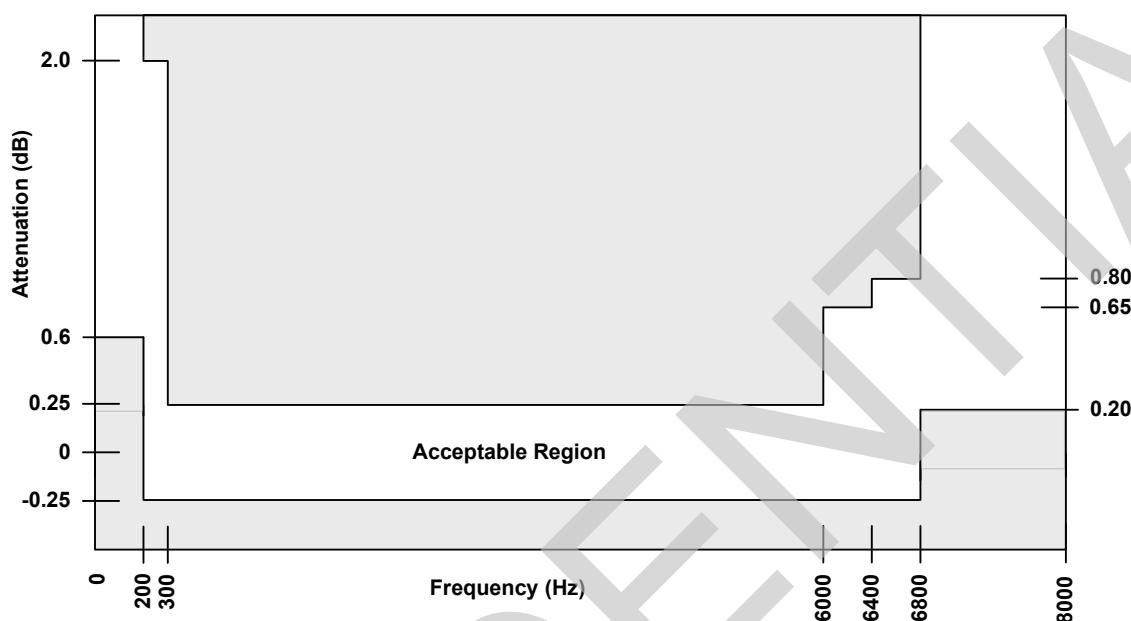
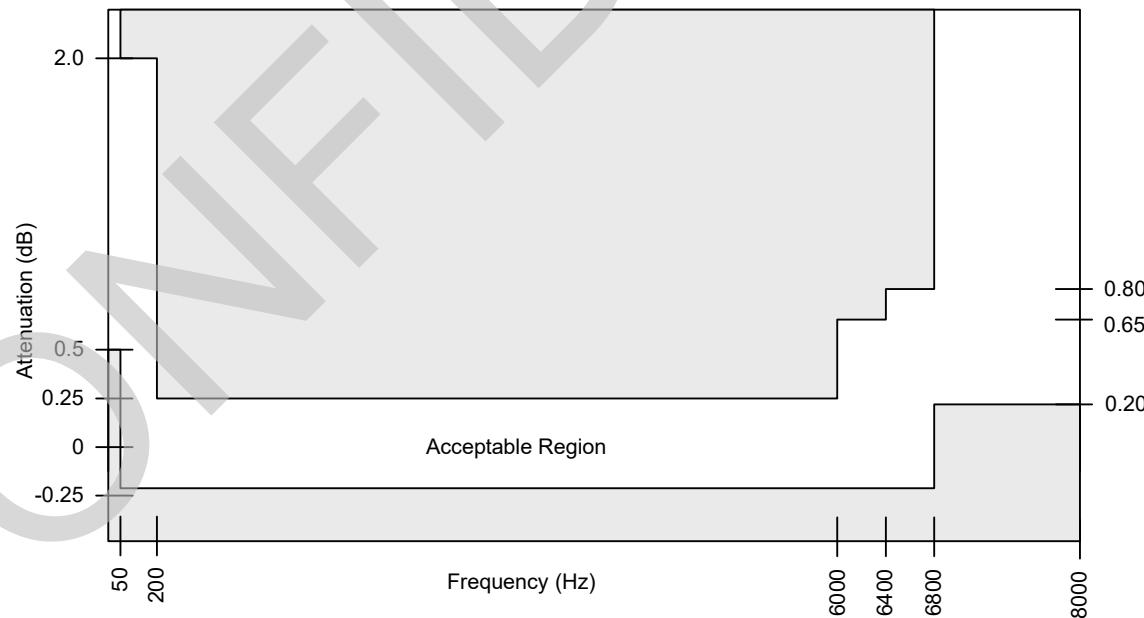

Figure 30 - Transmit (A to D) Path Attenuation vs. Frequency – (with High-Pass Filter Enabled)
Figure 31 - Receive (D to A) Path Attenuation vs. Frequency
3. See Figure 30 on page 46 and Figure 31 on page 46.
The signal attenuation in either path is nominally independent of the frequency. The deviations from nominal attenuation will stay within the limits shown in Figure 30 and Figure 31. The reference frequency is 1014 Hz and the signal level is -10 dBm0.